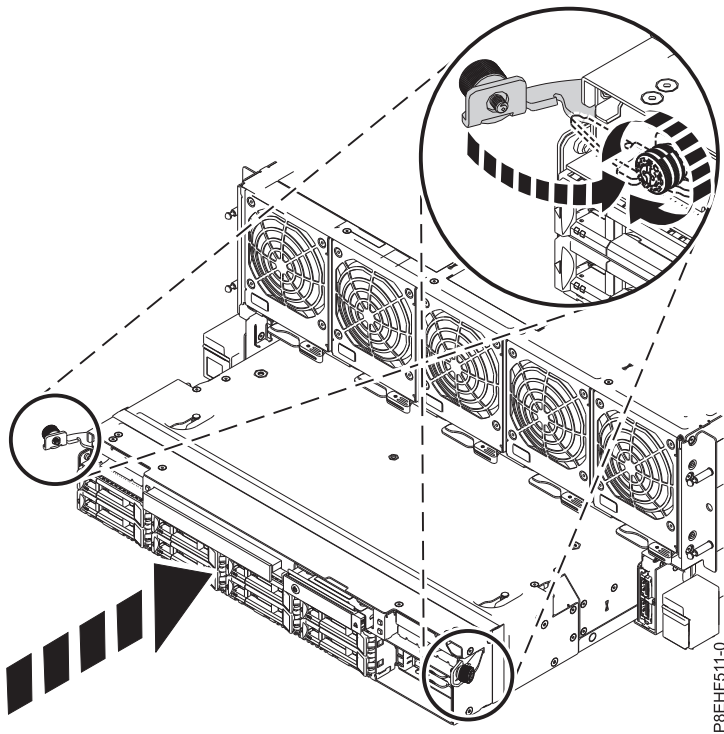

Figure 16. Replacing the RAID assembly
7. Slide the RAID assembly into the system. Push latches in and tighten thumbscrews, as shown in Figure 16.